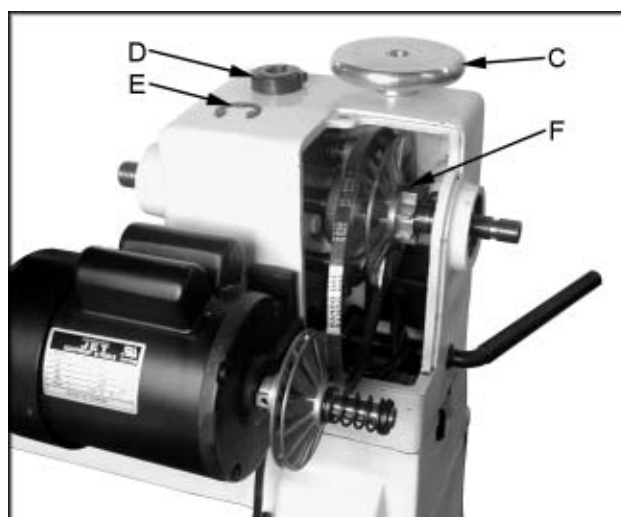

Fig. 24
2. Remove the belt cover, and remove the belt from the lower pulley, see Figure 24.
3. Loosen two set screws in the handwheel enough to unthread handwheel (C, Fig. 24).
4. Loosen socket head cap screw enough to unthread the clamping nut (D, Fig. 24).
5. Remove one e-ring (E, Fig. 24) from spindle.
6. Loosen two set screws in the right hand pulley (F, Fig. 24).